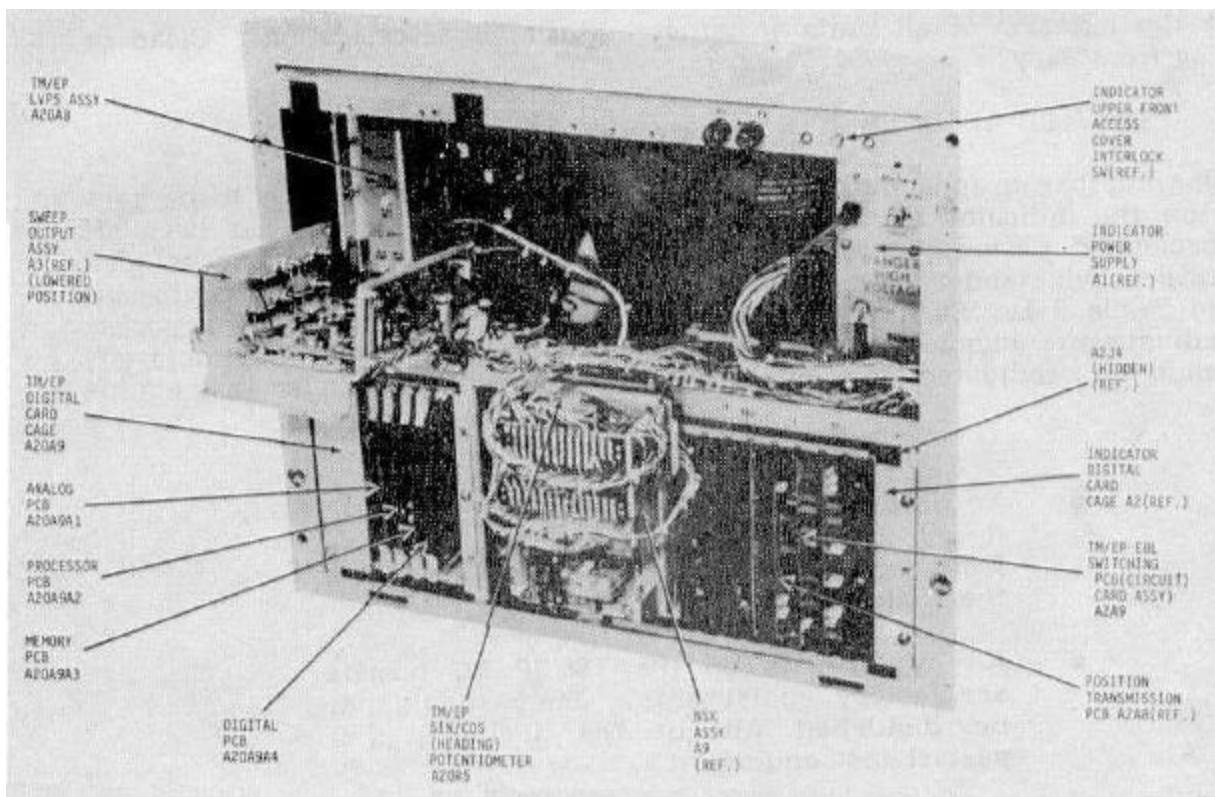

Figure 5-1 TM/EP Parts Location (in Radar Indicator)
- Figure 5-1 TM/EP Parts Location (in Radar Indicator)